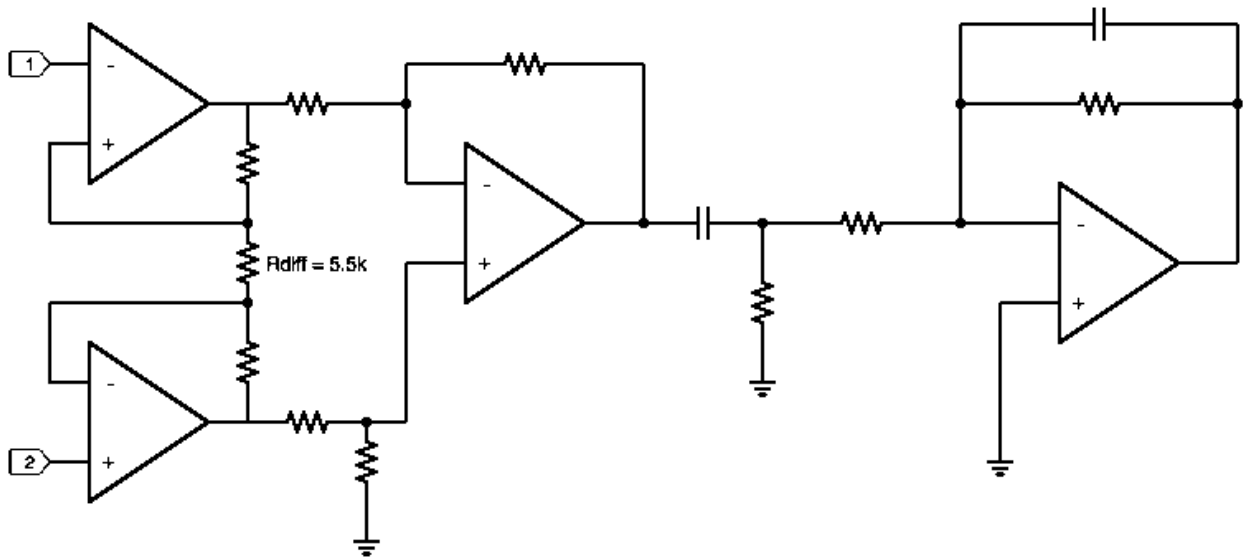

Figure 5: Instrumentation amplifier with HPF and LPF.
1. Insert a passive HP and an active LP filter in the biomedical amplifier as shown in Figure 5. Calculate the component values so that you achieve a band-pass filter with cutoff-frequencies of 1.5Hz and 400Hz.